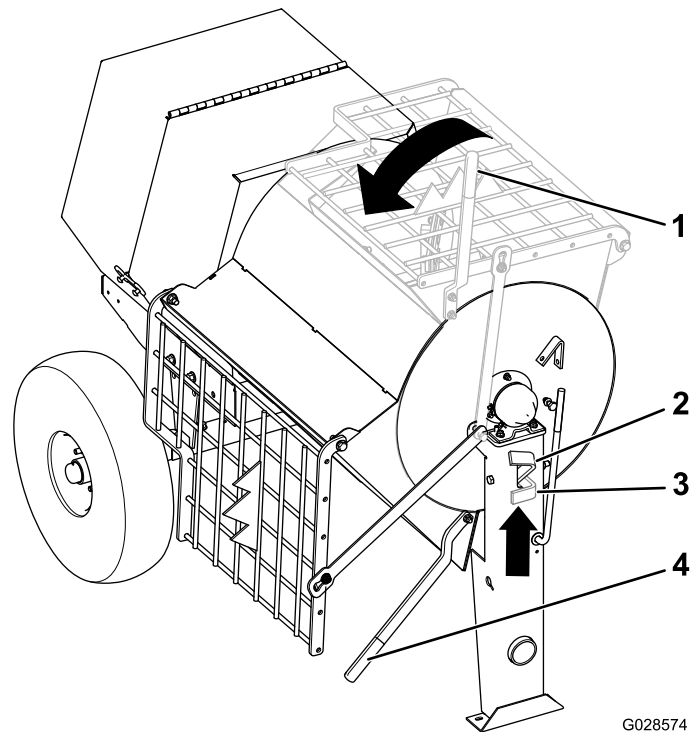

Figure 34
2. Grasp the dump handle with your left hand (Figure 34).
3. Lift the handle of the drum latch (Figure 34).
4. With both hands on the dump handle, rotate it counterclockwise to discharge the contents of the drum (Figure 34).
5. Rotate the dump handle **clockwise** until the drum latch locks the drum in the upright position (Figure 34).